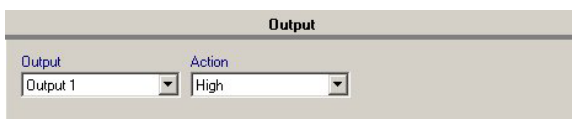

FIG. 60 Output options
1. In the AMX DCS window, click **Output**. The Output options appear (FIG. 60).